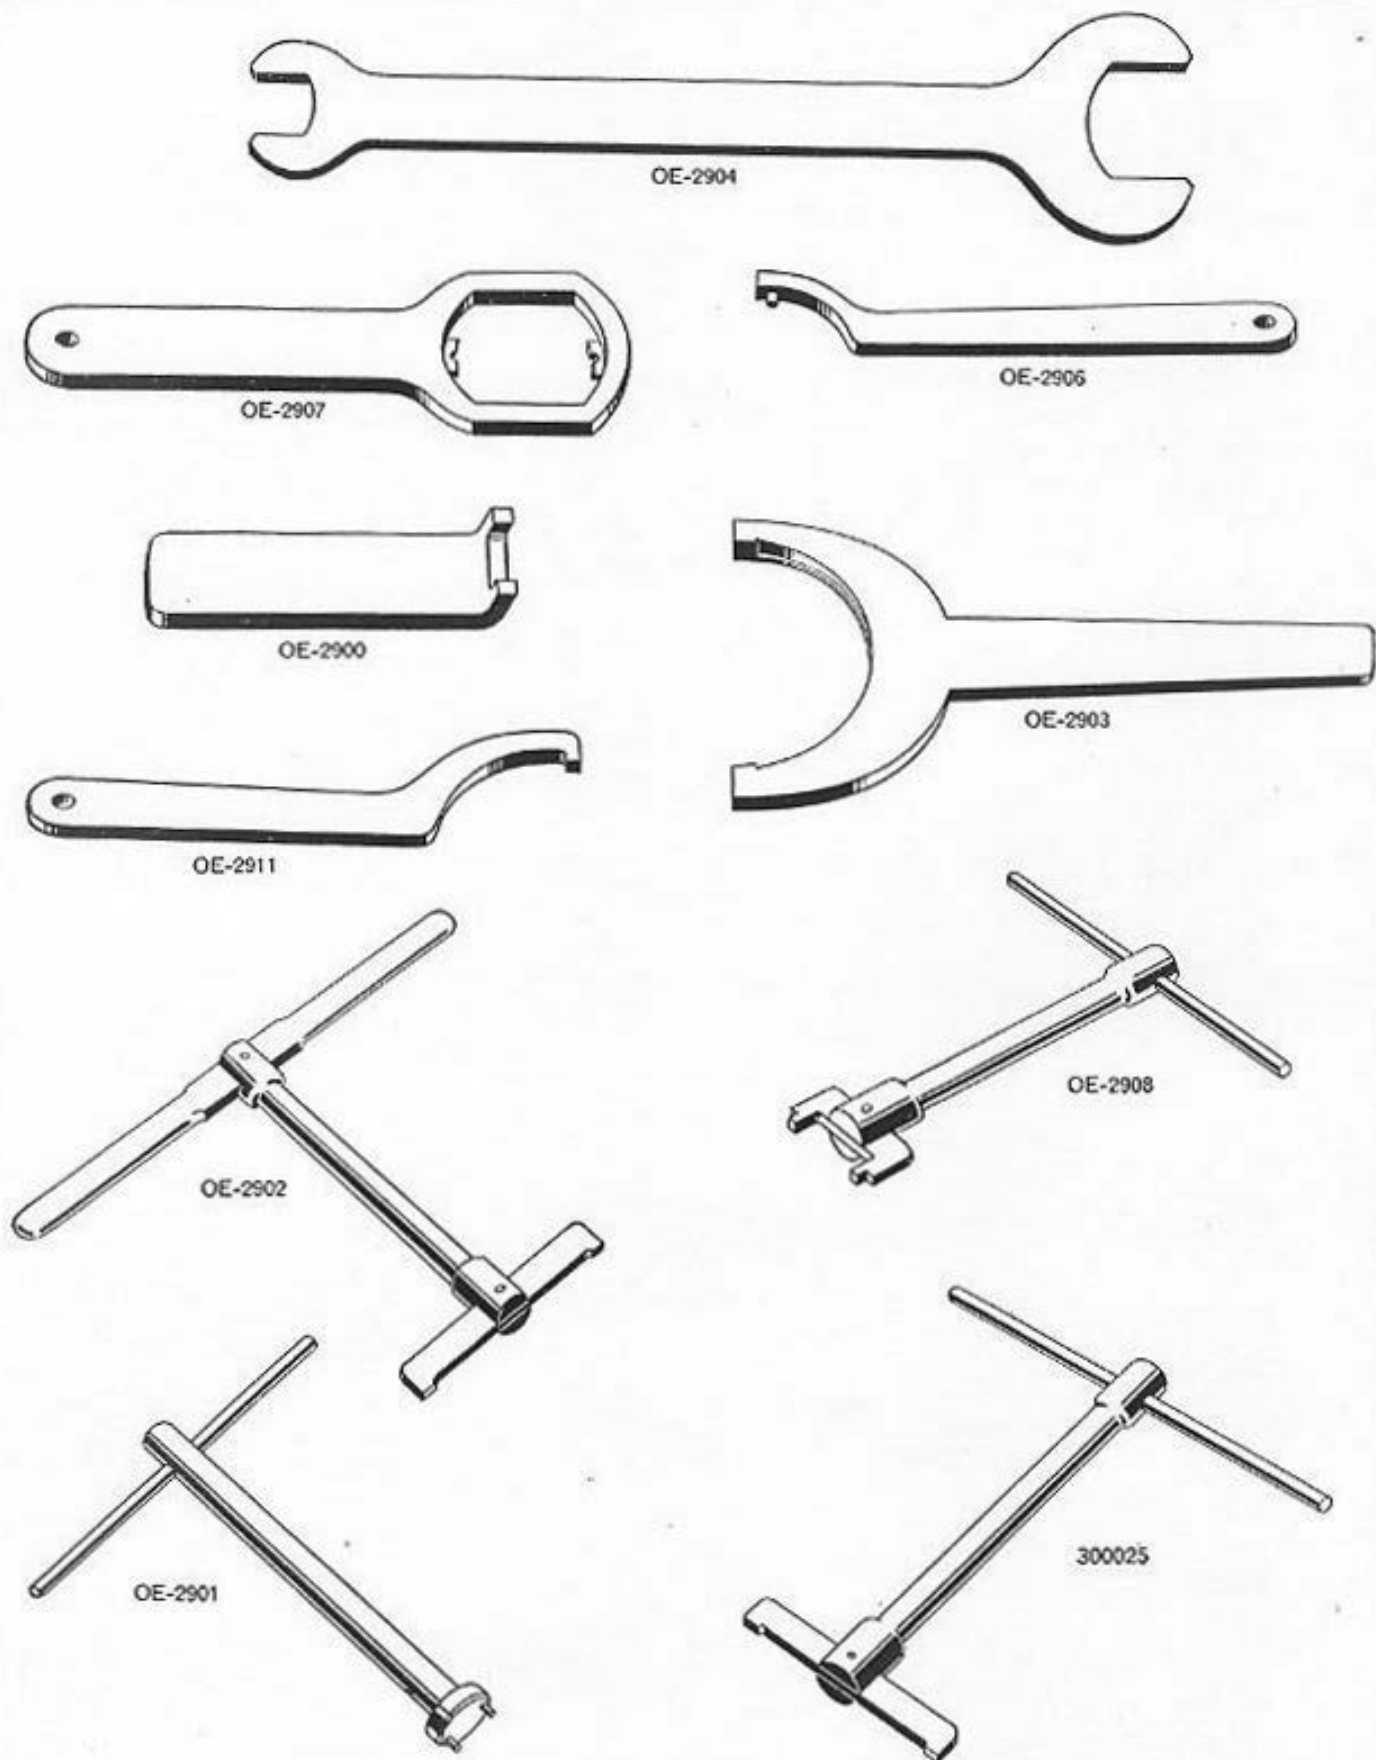
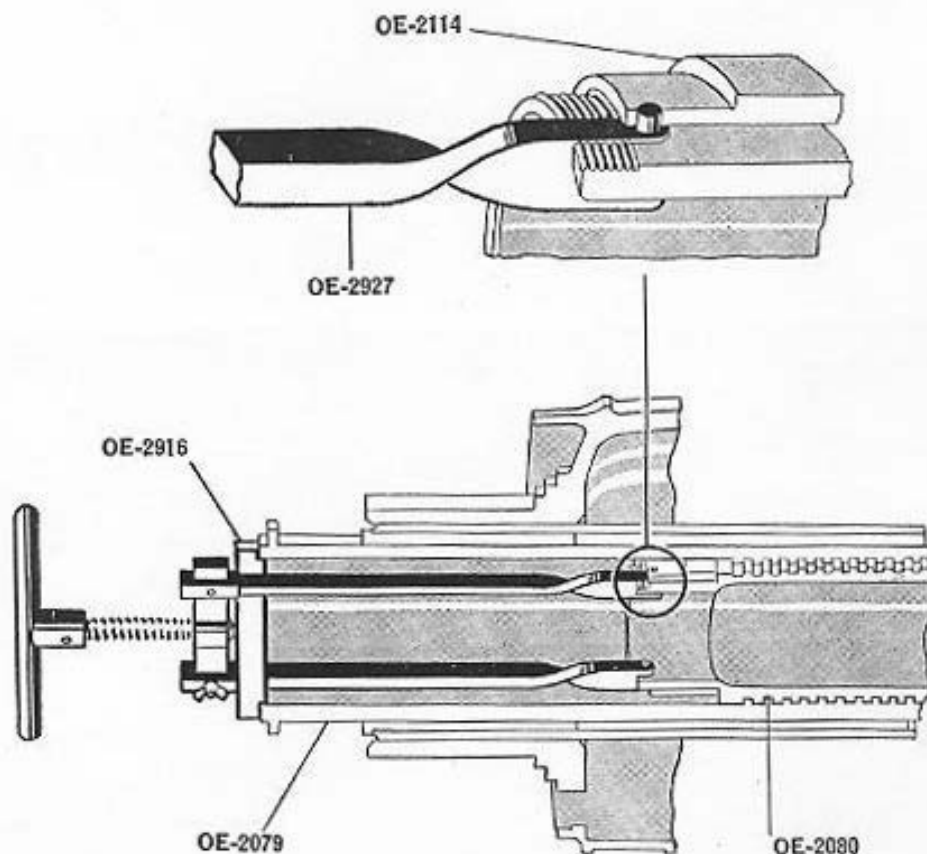

Figure 5—Mount Tools
Figure 9—Removing column raising spindle upper stop ring (OE-2114) from column raising spindle (OE-2080)
5. Remove the elevation counterbalance spring on the cradle, as follows: Lock the cradle at 90 degrees elevation. (Mounts with Mark 4 Mod. 1 and Mod. 2 cradles are limited to 87 degrees elevation.) Remove pin (OE-2268) that secures spring housing retaining nut (OE-2163). Remove this nut (OE-2163), using open end wrench (OE-2904) Figure 5. Remove (OE-2164) spring housing together with spring (OE-2169) and spring securing bolt (OE-2168). Remove housing cover (OE-2165) by taking out the securing screws (OE-2256).
7. Remove the two cap screws and lockwashers securing cover plate (299946-5) and remove cover and gasket (299946-6). Secure the helical equalizing springs (OE-2001) by removing the pivot closing cap screw (299923-7), and the cap, using wrench (OE-2901) Figure 5, from the recess in the center of the pivot. Remove screw plug (OE-2081), using wrench (OE-2901), from pivot closing cap (OE-2078). Insert this plug in the top of the tension tube and tighten until the flange touches the bearing race.
9. Remove the trunnion bracket and pivot coupling nut securing bolt (OE-2069), washer (OE-2277) and coupling nut (OE-2032), using spanner wrench (OE-2903), Figure 5. Remove the trunnion bracket and pivot through the roller bearings at the top of the pedestal.
12. Remove retainer ring set screw (299923-7) and bearing lower retaining ring (OE-2034) from the lower end of the trunnion bracket and pivot, using spanner (OE-2906), Figure 5. Remove inner race of lower needle bearing (OE-2095).
23. Strip the column raising spindle assembly, as follows: Remove the column raising spindle needle bearing ring set screw (299923-7). Remove the column raising spindle needle bearing retaining ring (OE-2116) using tool (300925), Figure 5. Remove upper stop ring needle bearing (OE-2056). To remove column raising spindle upper stop ring (OE-2114) from upper end of column raising spindle (OE-2080) requires the insertion of the column raising spindle back into the column as shown in Figure 9, and the use of special tools as follows:
24. Remove column lower bearing bushing retaining ring set screw (299923-7) and ring (OE-2035) using spanner wrench (OE-2902), Figure 5.
32. Mark the end of the clamping band lever screw on one edge with a prick punch, paint or crayon and place another mark on the pedestal head boss in line before removing the screw bushings. These parts can be reassembled in their original position and time will be saved in adjustment. Remove pins (OE-2242) from clamping band ends, unscrew bushings (OE-2038—Right Hand Thread, and OE-2039—Left Hand Thread) using angle wrench (OE-2900), Figure 5. Remove spindle (OE-2037), lever (OE-2086), clamping band assembly (OE-2040), and two pressure oilers (OE-2259).